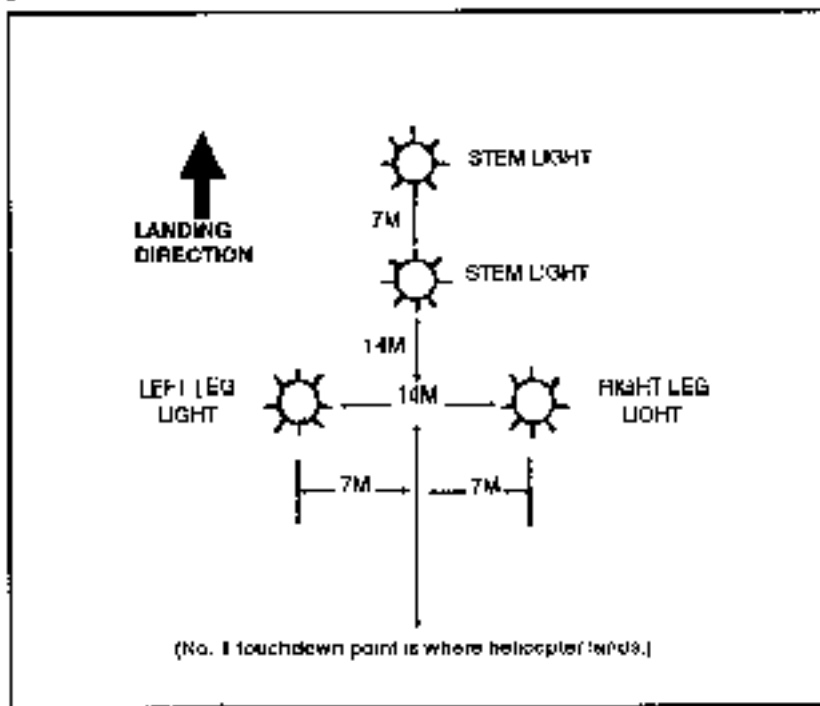

Figure 4-13. Inverted Y.
a. At night, lights of different colors maybe used to designate different helicopter sites or to separate flights within a larger formation. A lighted (inverted) Y indicates the landing point of the lead helicopter in the flight (Figure 4-13). At additional touchdown points, helicopter should land with the right landing gear or skid just to the left of the light. All lights should be hooded or turned upside down for security until the last practical moment when helicopters are inbound. Lights should be beamed in the direction from which the helicopters approach. A signalman should be used at a slingload point.